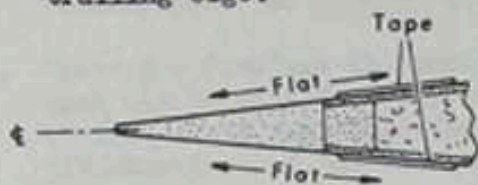

Fig. 31
30. Cut elevators from 1/2" thick balsa using the template on the template drawing. Spot glue them to the rear of the stabilizer and contour to airfoil shape, using a razor plane and sanding block. Place tape on the stab sheeting to prevent gouging (figure 31). Be careful to maintain centerline on elevator trailing edge.